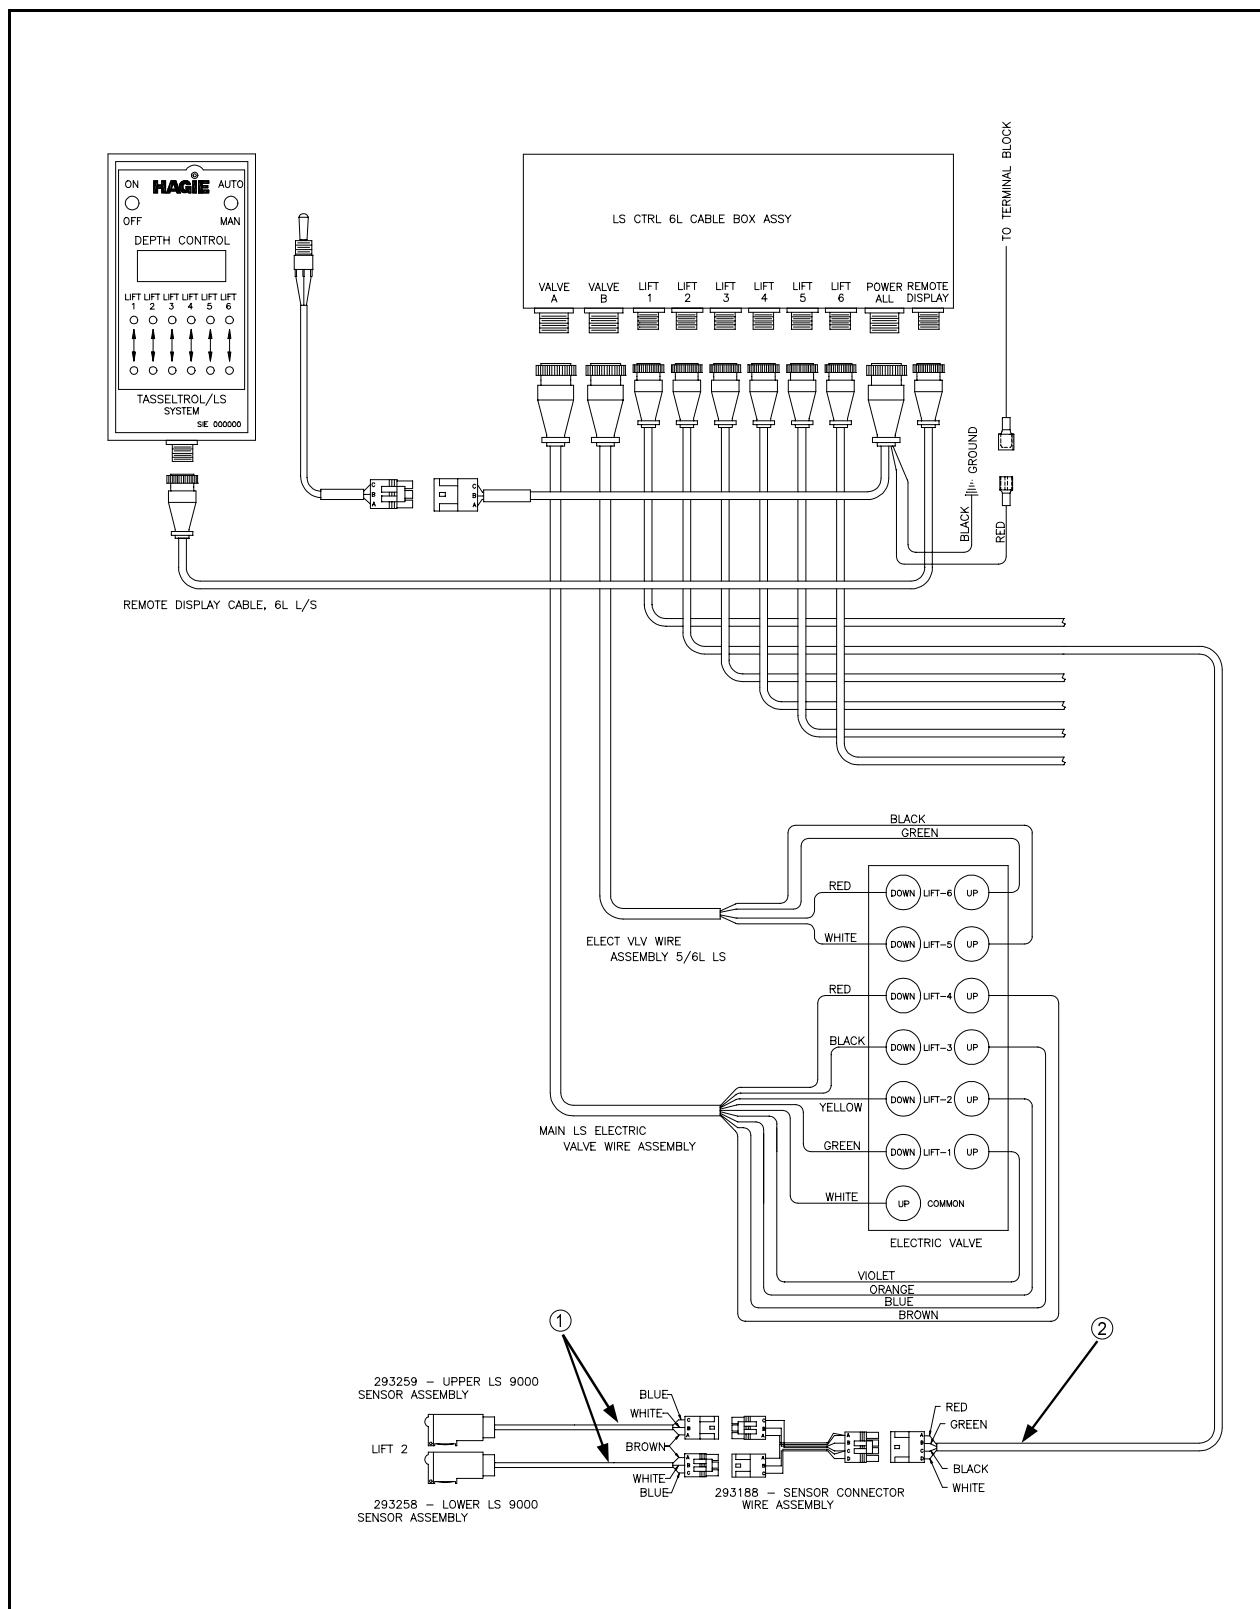

FIG 5.1
No lights at either photo sensor	Faulty connector cable (See page 31, fig. 5.1, item 2)  Faulty RED and/or BLACK wire in connector cable (See page 31, fig. 5.1, item 1)
Lights at lower photo sensor	<p>Faulty GREEN wire in connector cable (See page 31, fig. 5.1, item 2)</p> <p>Photo sensor not in line with reflector</p> <p>Faulty BLUE wire in sensor assembly (See page 31, fig. 5.1, item 1)</p>
No lights at lower photo sensor	<p>Faulty RED and/or BLACK wire in connector cable (See page 31, fig. 5.1, item 2)</p>
Lights at upper photo sensor	Faulty WHITE wire in sensor assembly (See page 31, fig. 5.1, item 1)  Faulty BLUE wire in sensor assembly (See page 31, fig. 5.1, item 1)
No lights at upper photo sensor	Faulty RED and/or BLACK wire in connector cable (See page 31, fig. 5.1, item 2)